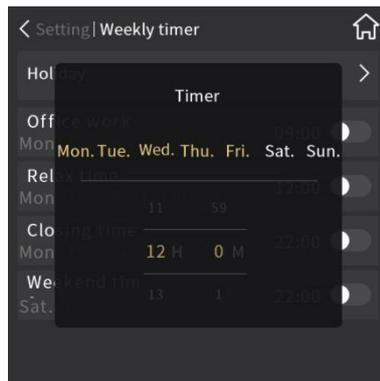

Fig.2.11.12
**⑲ By touching the middle position of this area to pop up window as shown in Fig.2.11.12;**
As shown in Fig.2.11.12, when there is no holiday added, the interface displays “No holiday timing setting, please add”.